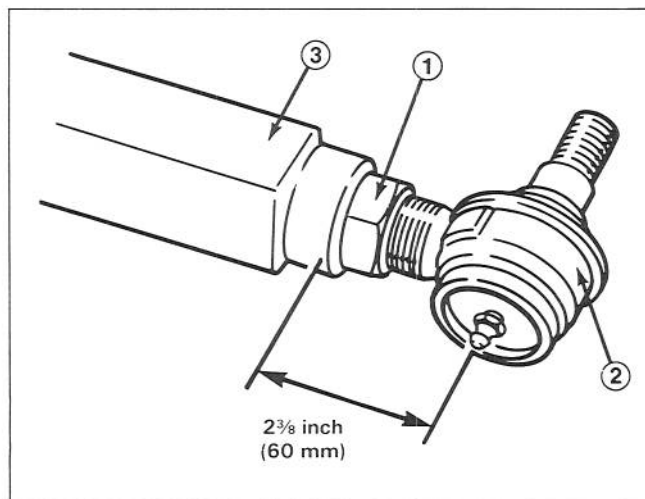

Figure 8
2. To assure correct deck alignment, loosen the push arm ball joint locknut and measure from the end of the push arm to the center-line of the ball joint and adjust to 2 3/8" (60 mm) (Fig. 8). Leave the push arm locknut loose.